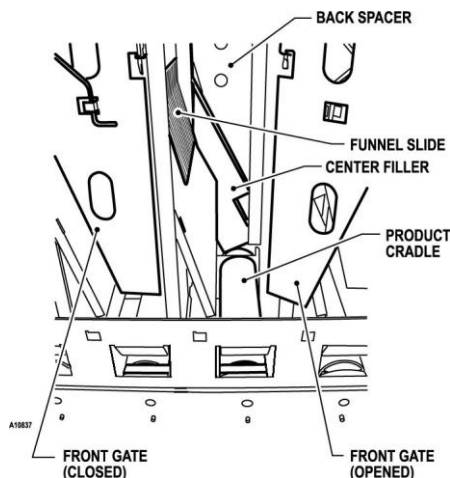

Figure 3. Vend Rack
1. Funnel slides must be kept clean. Refer to **Figure 3 & 4** for part names, locations, and product orientation.